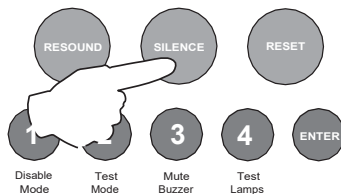
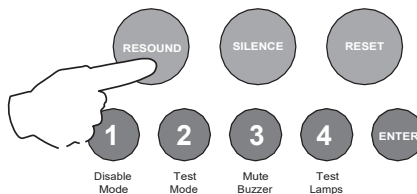

fig 1
fig 2
3. Only when it is safe to do so should the alarms be silenced. Activate the controls by turning the key switch or by entering the four-digit code (see Activate Controls in the OPERATING section) and press the (blue) SILENCE ALARMS button (fig 1). To sound the alarms again press the (red) RESOUND button (fig 2).